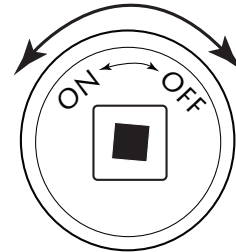

Fig. 6 Key Valve Face
1. Insert key into shut-off valve and secure into square end (see Figs 6 - 7).